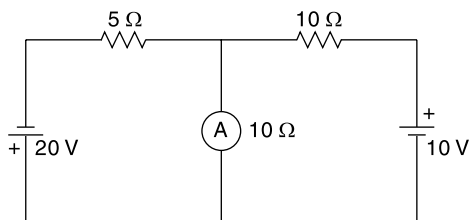

Fig. 14.38
14.64 In Fig. 14.38, find the current through the ammeter having 10Ω internal resistance. Use the principle of superposition.